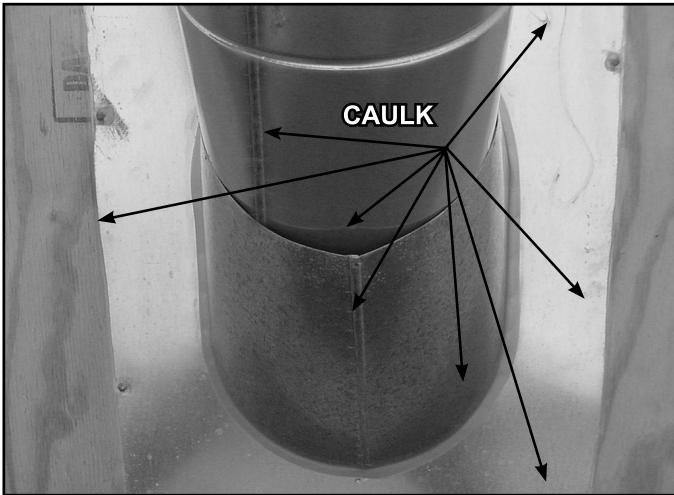

Figure 10.19
- Slide the roof flashing over the pipe sections extending through the roof as shown in Figure 10.19.
- Caulk the perimeter of the flashing where it contacts the roof surface. See Figure 10.19.